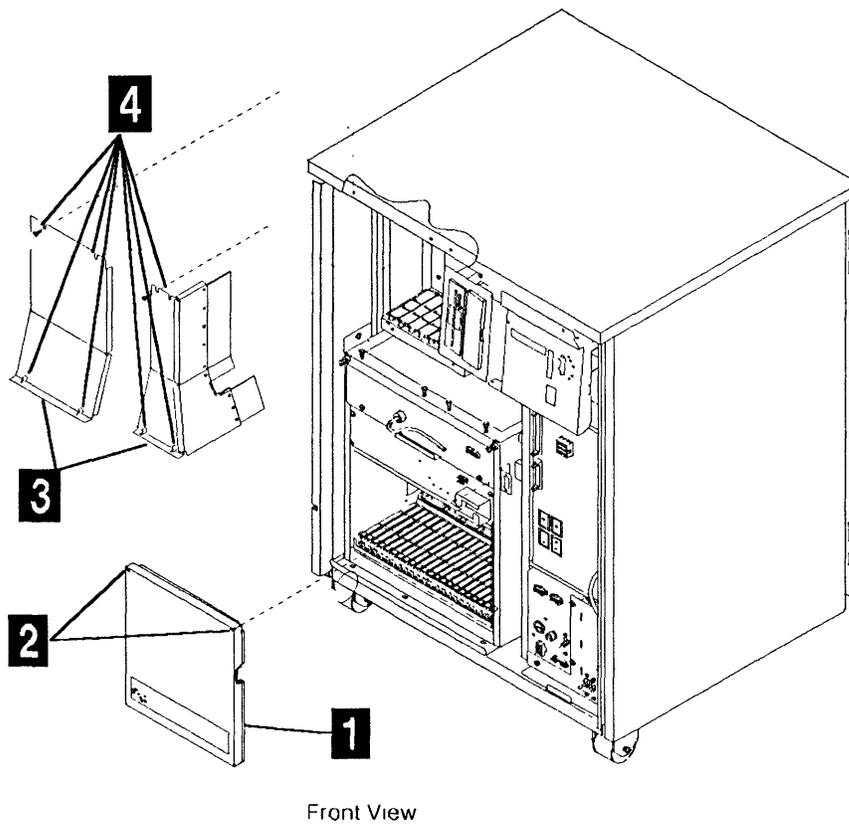

Figure 4-40. Covers.
6. Take away the cover(s) of the board. Refer to Figure 4-40 on page 4-33. Cover **1** for the Basic board (loosen the 2 screws **2** and lift up the cover), covers **3** for the MOSS board (remove the 7 screws **4**).